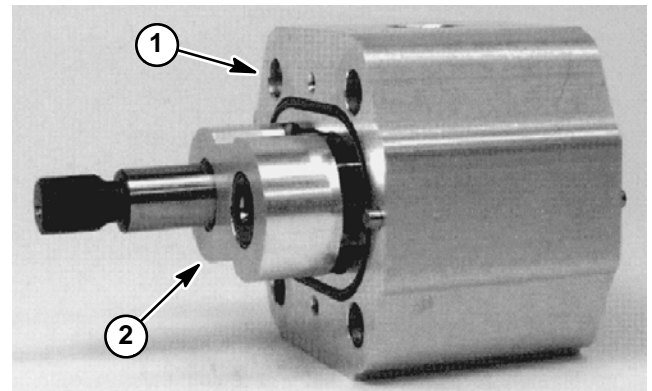

Figure 82
8. Place the motor on its side and push on the rear bearing block to remove the bearing block and gear set (Fig. 82).